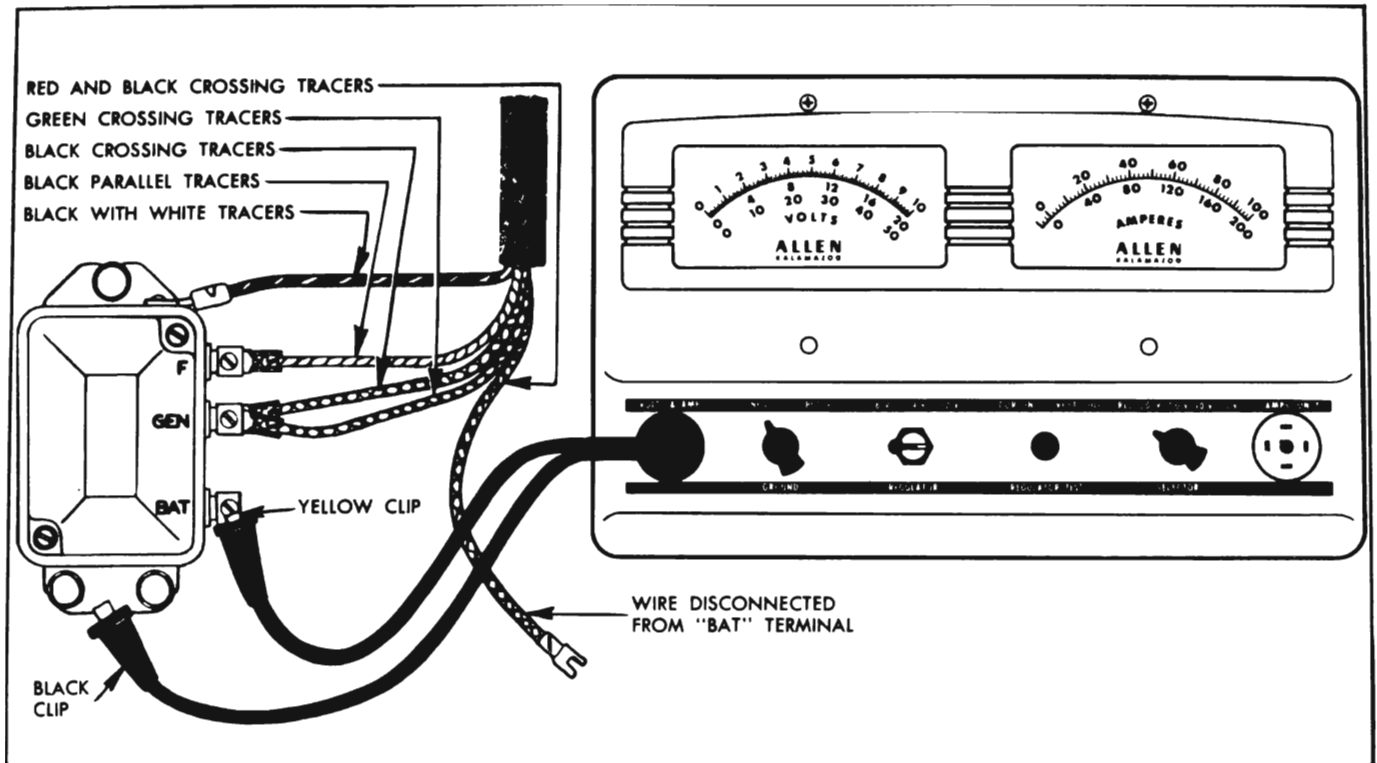

Figure 10-18—Voltage and Current Regulator Test Connections—Fixed Resistance Method
12. Turn "SELECTOR" switch to "REG" position, leave "GROUND" switch at "NEG" position, and turn "REGULATOR" switch to "6V" position. Connect YELLOW clip of voltmeter lead to regulator terminal marked "BAT" and leave BLACK clip connected to ground on base plate of regulator. See figure 10-18.